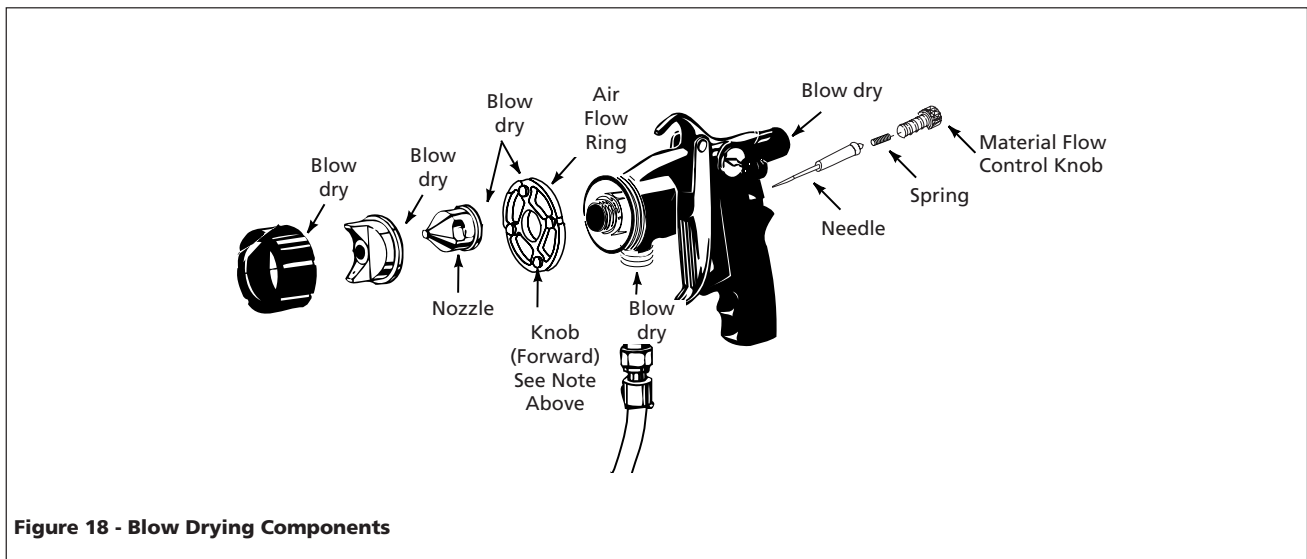

Figure 18 - Blow Drying Components
- Reinstall the components in reverse order of disassembly (See Figure 18). Always install nozzle before installing the needle to prevent needle damage.
- When the gun and all parts are thoroughly cleaned, use the turbine hose to dry the parts and blow the passages dry. Thorough drying of the gun and all components prior to reassembly prevents coating contamination during the next operation of the unit, and inhibits oxidation of internal gun components (See Figure 18).
NOTICE *The four raised knobs on the air flow ring must be facing forward (toward the nozzle) when assembled. (See Figure 18).*